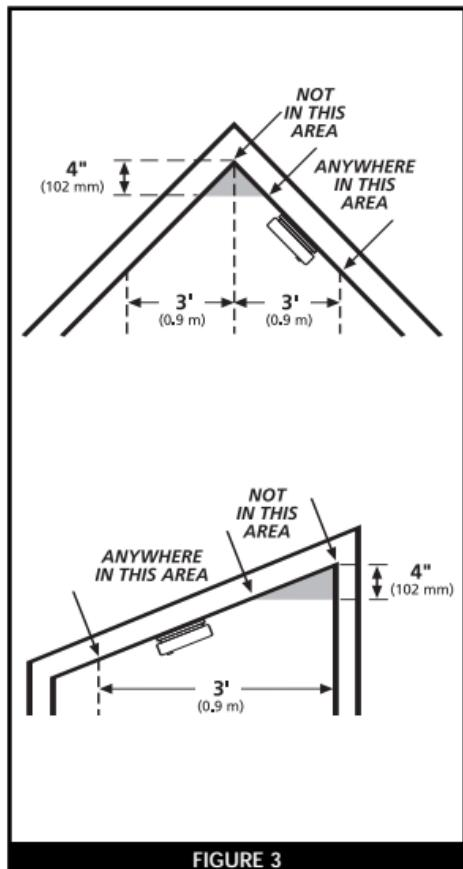

FIGURE 3
- Install Smoke Alarms on sloped, peaked or cathedral ceilings at or within 3ft (0.9m) of the highest point (measured horizontally). NFPA 72 states: "Smoke alarms in rooms with ceiling slopes greater than 1 foot in 8 feet (.3m in 2.4m) horizontally shall be located on the high side of the room." NFPA 72 states: "A row of alarms shall be spaced and located within 3 ft (0.9m) of the peak of the ceiling measured horizontally" (see Figure 3).